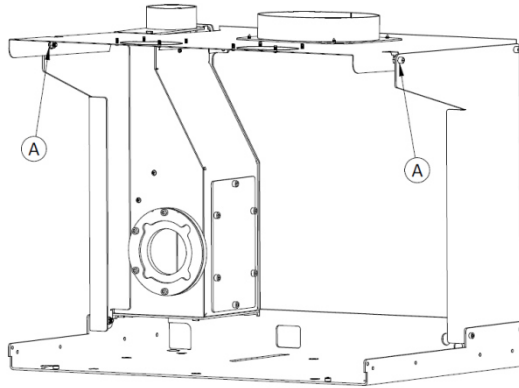

Figure 20 - Installation of the pellet insert
- As shown in Figure 20, the Square V version has a top chassis attached to the side columns by means of DIN 912 M6 screws and DIN 934 nuts. Unscrew without completely removing the front screws (marked with the letter "A"), the cap rotates over the rear screws, making the top cover accessible to facilitate attachment of the flexible tube to the pellet gargle. It is necessary to join the tube leaving the loading mouth with the cap through a metal clamp, it is necessary to make sure that the tube has no curves where they can accumulate pellets. Finally, place the cover in its original position and fix the screws again.